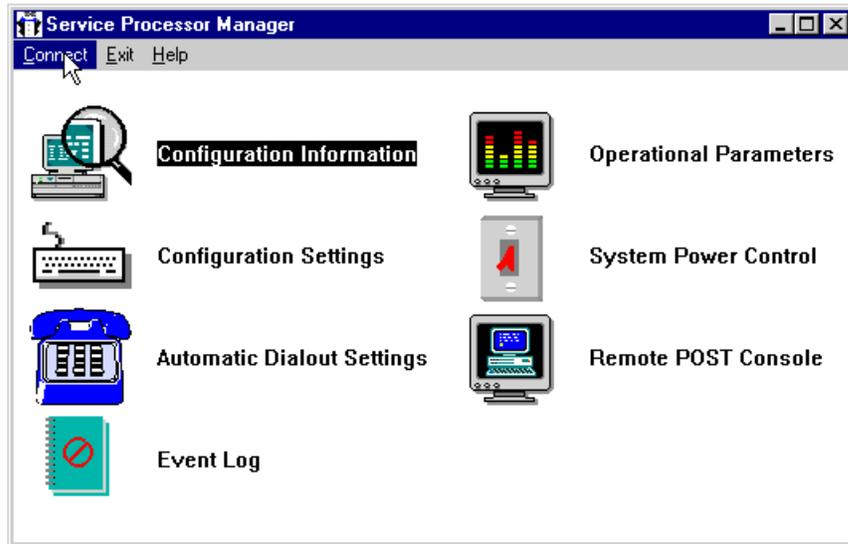

Figure 61. Service Processor Manager Window
- a. Start the Service Processor Manager and click on **Connect** from the menu bar, as shown in Figure 61 on page 86.